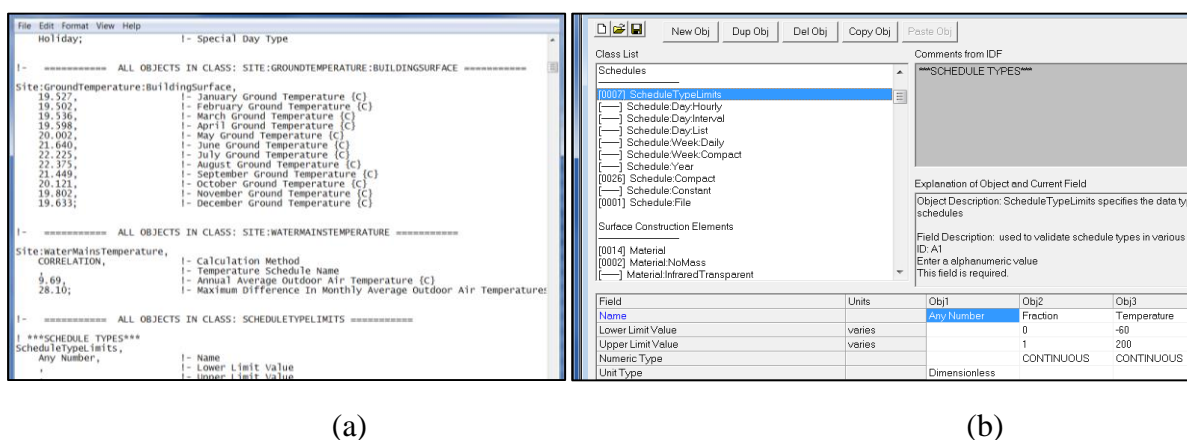

Figure 24. Open (a) text editor or (b) EnergyPlus IDF Editor program
1. Open the EnergyPlus project file, into which you want to import CONTAM infiltration rates, with either a text editor or the EnergyPlus IDF Editor program (**Figure 24**).